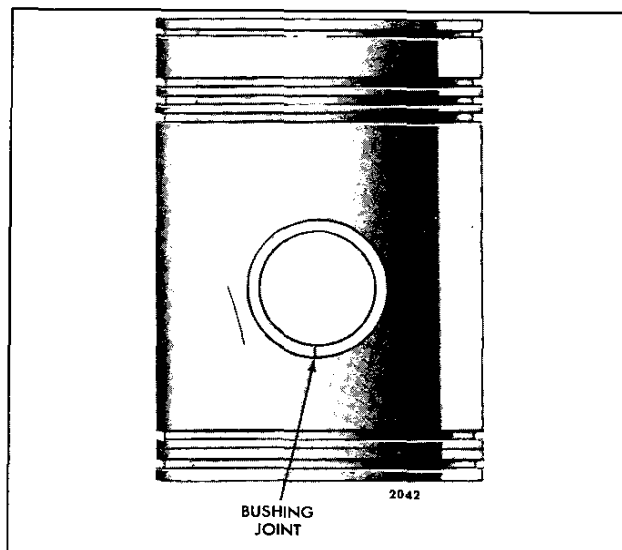

Fig. 6 - Location of Joint in Piston Pin Bushings
3. Insert the installer J 4972-2 in a bushing, then position the bushing and installer over the lower bushing bore. Locate the joint in the bushing toward the bottom of the piston (Fig. 6).